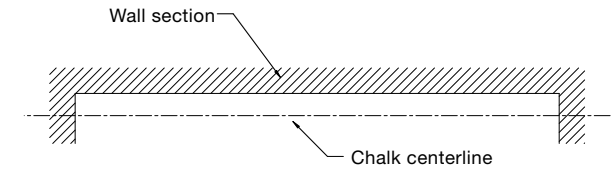

Figure P-1
1. The floor should be continuous and level under each pedestal. Snap a chalk line on the floor along the centerline of the pedestals. The pedestal centerline should be 4" from the wall for one row pedestals, and 6-1/2" from the wall for two row pedestals. (Figure P-1)